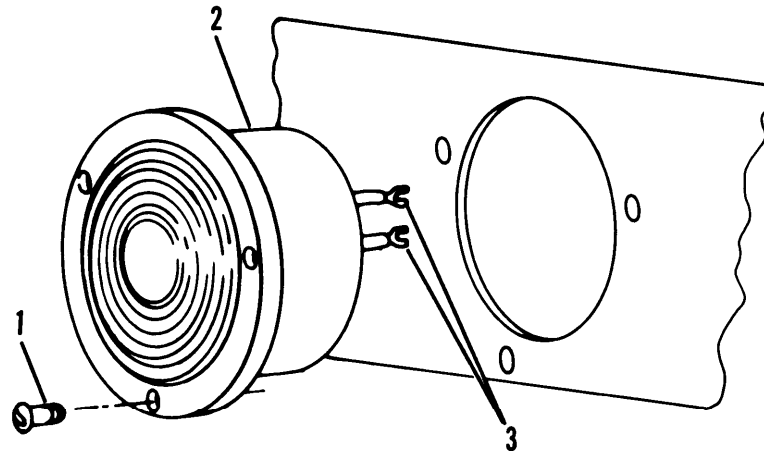

Figure 4-10. Taillight
- (1) Remove three screws (1, fig. 4-10).
- (2) Remove taillight assembly (2).
(1) Connect wiring (3, fig. 4-10).
(2) Install light assembly (2) into position.
(3) Install three screws (1).
(4) Connect electrical power and test for proper operation.